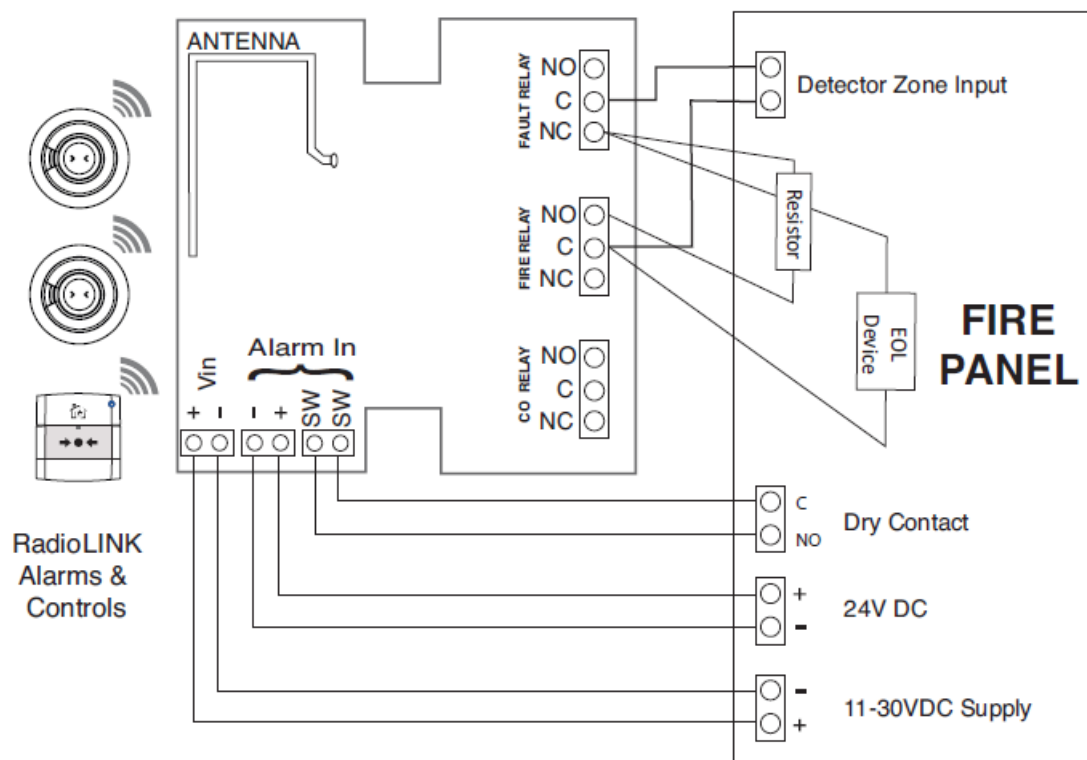

Figure 5
1. Place the current limiting resistor between the NC terminal of the Fault Relay and the NO terminal of the Fire relay as shown in Figure 5. Check with the fire panel manufacturer for the value of the resistor to be used.
4. Wire the Fault Relay common (C) terminal and the Fire Relay common (C) terminal to a detector circuit in the panel.
5. Wire the EOL device to the NC terminal of the Fault relay and the C terminal of the Fire relay as shown in Figure 5.